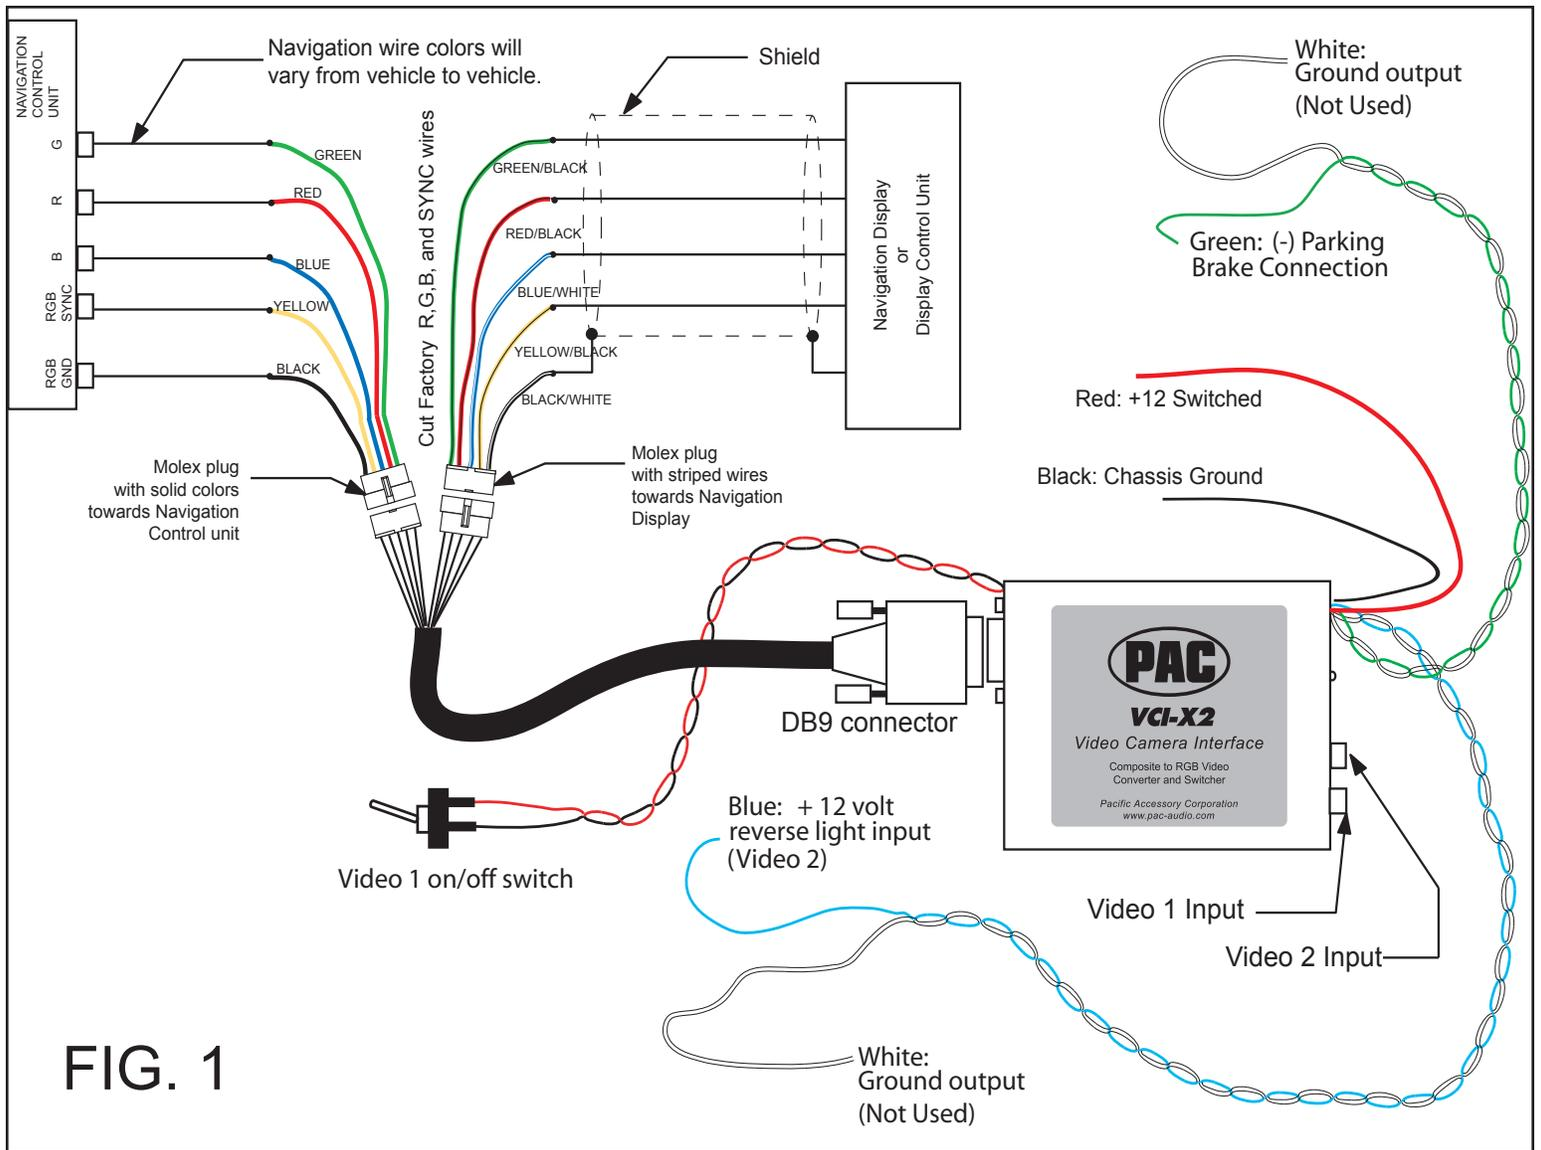

FIG. 1
1. Locate the R, G, B and SYNC wires on OEM navigation unit (usually located in trunk, glove box, rear side panel or center console. Read vehicle's owner manual to locate the navigation unit.) and cut these wires in half. If the wires are in a braided shield (typically a DIN cable), cut the insulation and braided shield wire to expose the individual wires. Connect the VCI-X2's 6 pin Molex plugs as shown in FIG. 1.